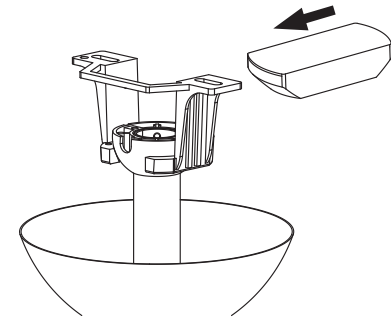

Fig. 13
Step 1 . Insert the receiver into the ceiling mounting bracket with the flat side of the receiver facing the ceiling (**Fig.13**) for best performance, make sure the black antenna wire (on the end of the receiver) remains extended, and does not become tangled with the electrical wires.
Make each of the wire connections illustrated in Fig. 13. Secure each with the wire nuts provided.